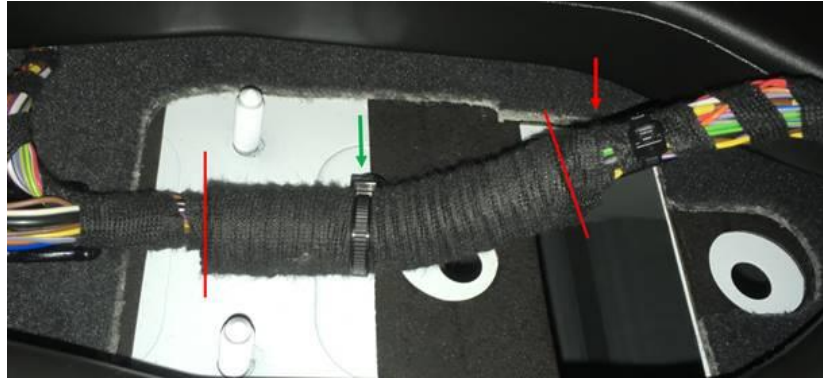

Figure 3. Completed harness protection.
5. Install the corrugated tube part number N 107 328 01 over the wrapped cables between the red lines indicated in Figure 3.
6. Using textile tape N 107 209 02, completely wrap the corrugated tube over the harness so that it cannot slip out of place (red arrow on Figure 3).
7. Use a new cable tie, part number **3D0 971 838 A** and secure the harness to the body (green arrow on Figure 3).